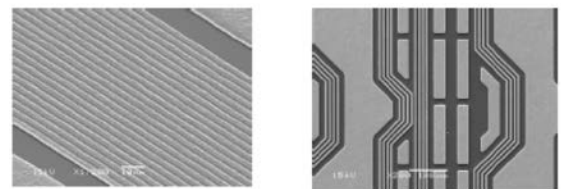

Figure 8. SEM of 2/2um LW/LS RDL with coarser RDL LW/LS.
Figure 8 shows 2/2um (LW/LS) alongside coarser LW/LS in eWLB/FOWLP. Scanning Electron Microscope (SEM) images show uniform and well defined micro structure. Copper (Cu) RDL thickness and critical dimensions (CD) are also well controlled with verified process robustness using current HVM equipment and process flow [7].